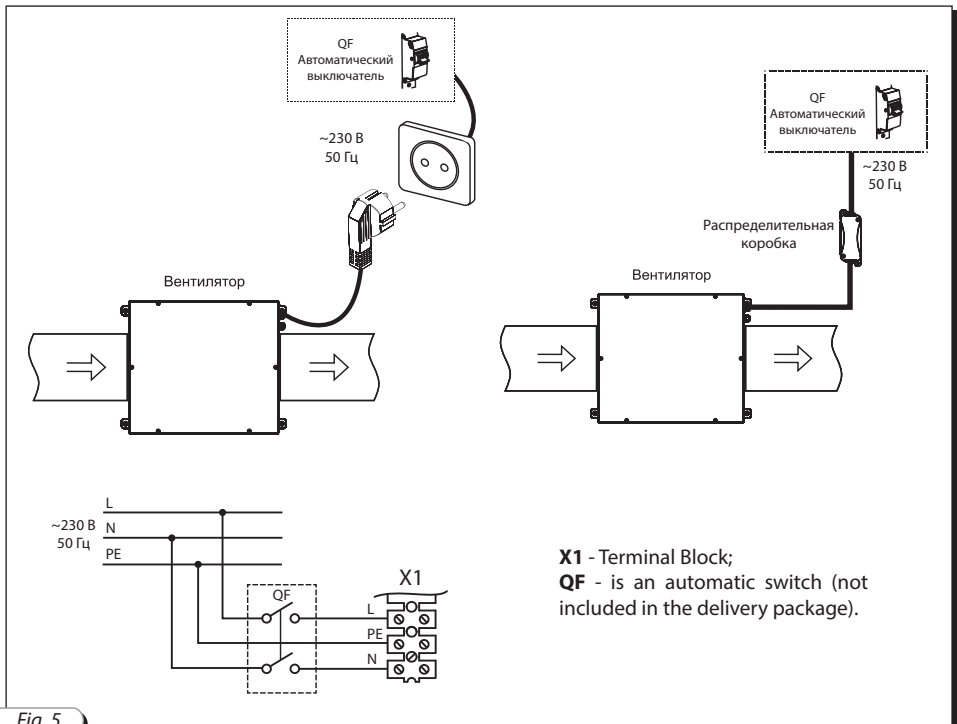

Fig. 5
- Connect the wires to the terminal block in accordance with the electrical connections diagram and the terminal markings (see Fig. 5). To do this insert the wires into the respective terminals until the insulation stops against the metal part and secure the wires with clamping screws;
In case of the fan connection to the power mains via the junction box the connection diagram and the terminal markings also apply (see Fig. 5).